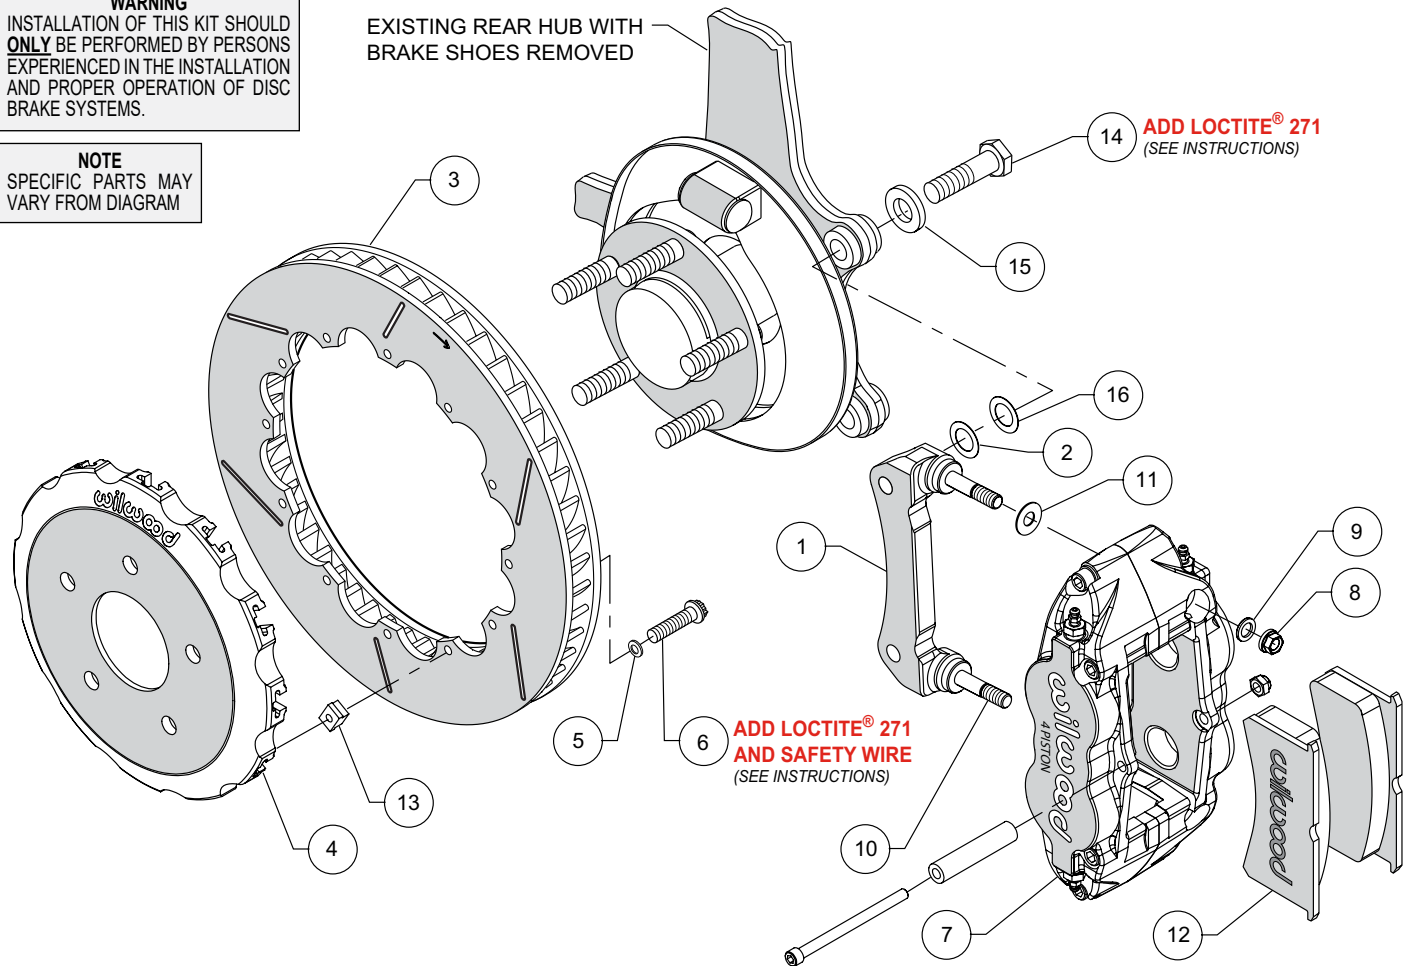
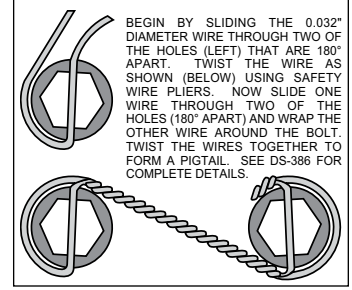
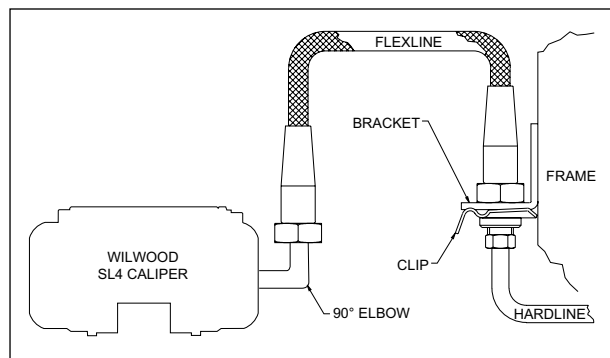

Figure 1. Typical Installation Configuration
Figure 3. Safety Wire Diagram
Figure 4. Brake Line Diagram
Assembly Instructions (numbers in parenthesis refer to the parts list and Figure 1 on the preceding pages):
- The caliper mount bracket (1) should initially be installed with clean, dry threads on the mounting bolts. Orient the bracket, as shown in Figure 1 and install using bolts (14) and washers (15). Initially place one .029" thick shim (16) on each bolt between the bracket and upright, Figure 1. Temporarily tighten the mounting bolts. **NOTE:** *The bracket must fit squarely against the mount bosses on the upright.* Inspect for interference from casting irregularities, machining ridges, burrs, etc. Later, after the caliper alignment has been checked, the mount bolts will be secured using red *Loctite*® 271.
- Orient the rotor (3) and the hat (4) as shown in Figure 1 and Photo 1. Attach rotor to hat using bolts (6), washers (5) and t-nuts (13). Apply red *Loctite*® 271 to the bolt threads and torque to 120 **in-lb** using a criss-cross pattern. Please refer to Wilwood's data sheet DS-392 (available at www.wilwood.com/Pdf/DataSheets/ds392.pdf) for complete t-nut bolt kit installation instructions. Safety wire bolts using standard 0.032 inch diameter stainless steel safety wire as shown in Figure 3. Refer to Wilwood's data sheet DS-386 (available at www.wilwood.com/Pdf/DataSheets/ds386.pdf) for complete safety wire installation instructions.
- Initially place one .035" thick shim (11), on each stud (10) as shown in Figure 1 and Photo 2. Mount the caliper (7) onto the bracket (1) using lock nuts (8) and washers (9), Figure 1. Temporarily tighten the lock nuts and view the rotor through the top opening of the caliper. The rotor should be centered in the caliper, Photo 3. If not, adjust by adding or subtracting shims (2 and/or 16) between the bracket and the upright. Always use the same amount of shims on each of the two mounting bolts. Once the caliper alignment is correct, remove the bracket mounting bolts (14) one at a time, apply red *Loctite*® 271 to the threads, and torque to 77 ft-lb.
- Remove the caliper center bridge pad retainer bolt, nut, and tube from the caliper. Insert the brake pads (12) into the caliper, with the friction material facing the rotor, as shown in Photo 4. Check that the top of the brake pad is flush with the outside diameter of the rotor, Photo 5. If not, adjust by adding or subtracting shims (11) between the caliper and the bracket. After the caliper pad height is set, reinstall the center bridge pad retainer tube, bolt, and lock nut. The lock nut should be snug without play in the bolt or tube. Be cautious not to over tighten. Torque the caliper lock nuts (8) to 30 ft-lb.
- **NOTE:** *The caliper in this brake kit utilizes a 1/8-27 NPT pipe thread inlet (use PTFE tape on pipe threads of adapter fitting for proper sealing to caliper). OEM rubber brake hoses generally cannot be adapted to Wilwood calipers. Wilwood offers a brake flex line hose kit to fit this application, order P/N 220-8177 for C5, or 220-9101 for C6 (NOT included in kit), see Figure 4. Hose kit includes*